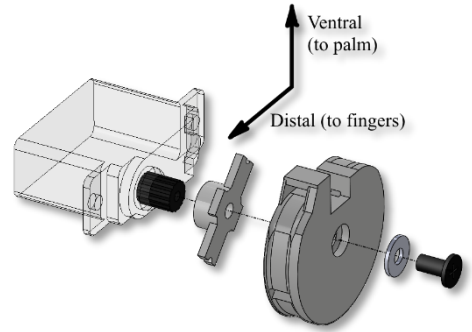

Figure 17: Servo spool installation on servo
3. Install the servo spool on the servo, using the plus-shaped servo horn with ends clipped, ensuring that the zip-tie receiving end is at the top of the servo (most ventral when mounted in the palm). See Figure 17.